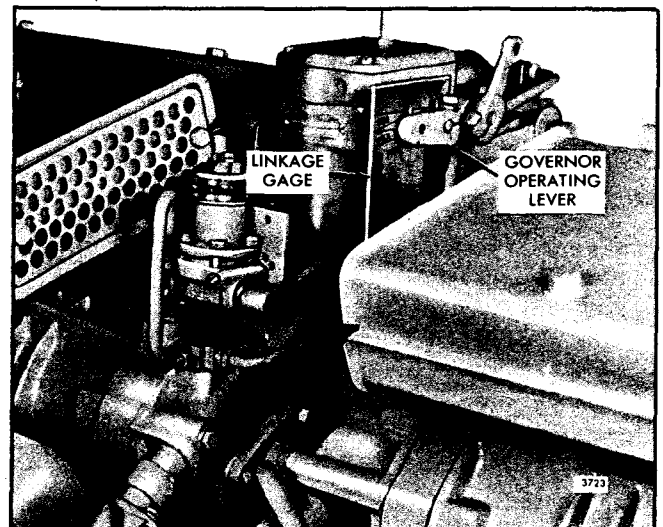

Fig. 6 - Governor Operating Lever in Position
14. Replace the governor operating lever on the serrated shaft so that the bolt hole is lined up within the proper lines on the gage. The type of governor (SGX or PSG) will determine the proper position of the lever (Fig. 6).